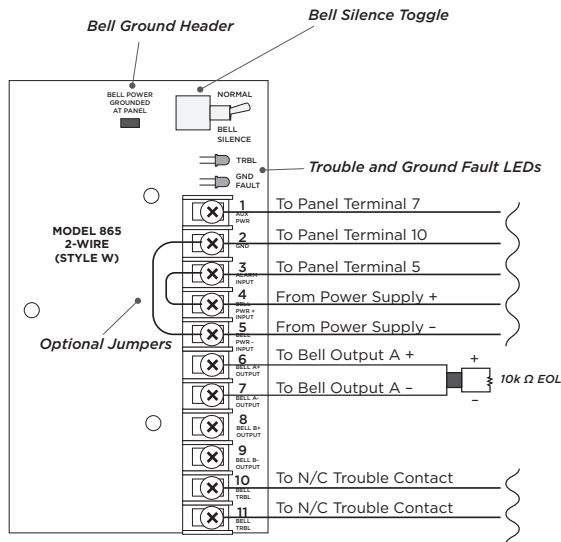
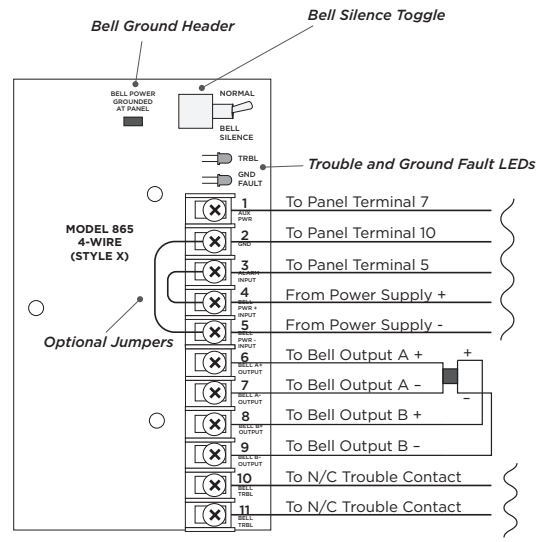

Figure 3: Style W Wiring Connections
Figure 4: Style X Wiring Connections
For power connections, use 22 AWG or larger wire. Refer to Figure 3 and Figure 4 when wiring the module.
7. For Style W connections, wire module Terminals 6-11 as shown in Figure 3. Install the included 10k Ohm EOL resistor across Bell Output A + and Bell Output A -.
8. For Style X connections, wire module Terminals 6-11 as shown in Figure 4. Trouble contacts are connected to a zone on the panel to indicate NAC trouble or ground faults. The common relay is rated 30 VDC @ 1 Amp, resistive.